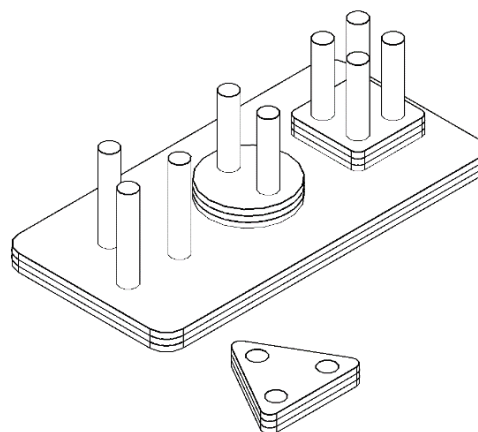

Figure 5
17. In the kids' play area, there are a number of embedded games. For example, there is a shape sorter game as you could see in Figure 5.